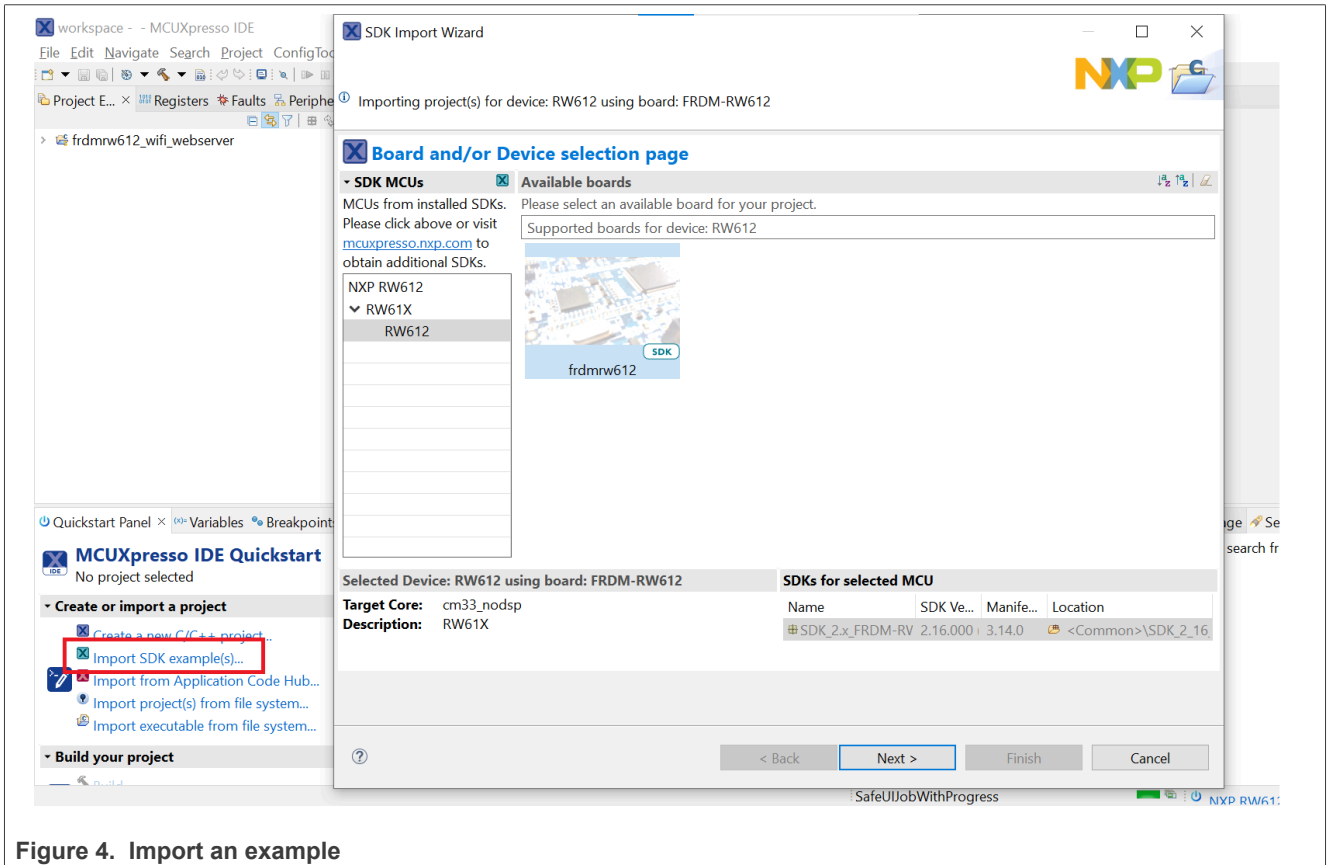

Figure 4. Import an example
- Go to the *Quickstart* panel and select the option *Import SDK examples* (Figure 4)